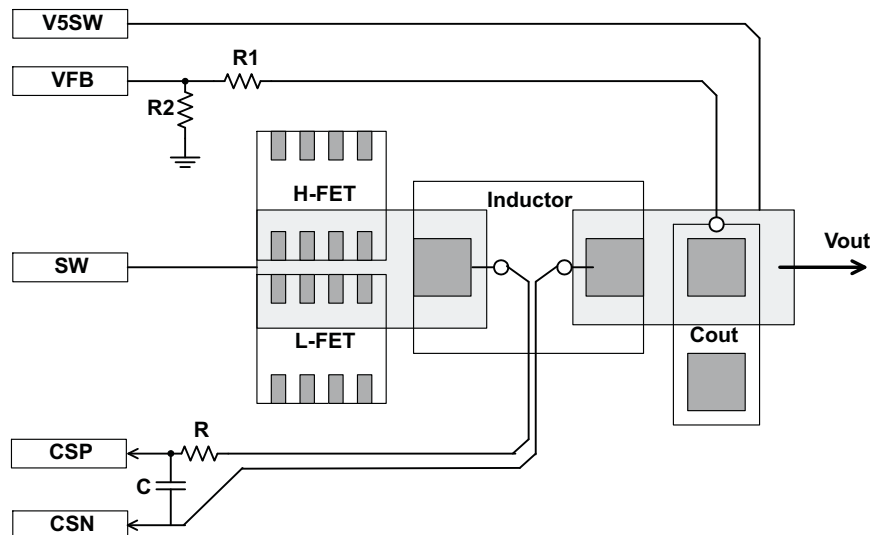

Figure 49. Sensing Trace Routings
- Use separate traces for: (see Figure 49)